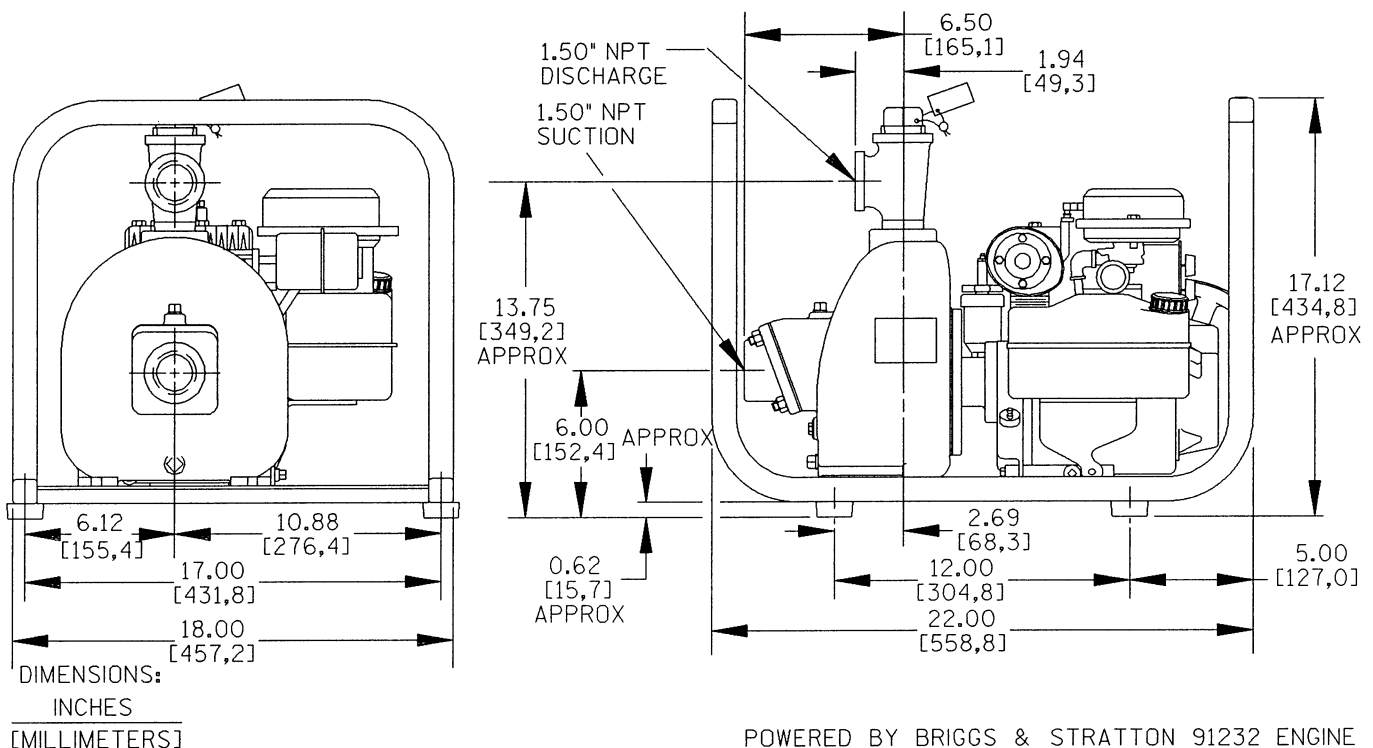

Figure 1. Pump Models 81 1/2A-9 and 81 1/2A2-9
See Figure 1 for the approximate physical dimensions of this pump.
- e. The rubber foot mounting kit (see Parts List, Section E, Page E-3) was shipped loose with the pump. Refer to Figure 1, Page E-2 and install the parts as shown.